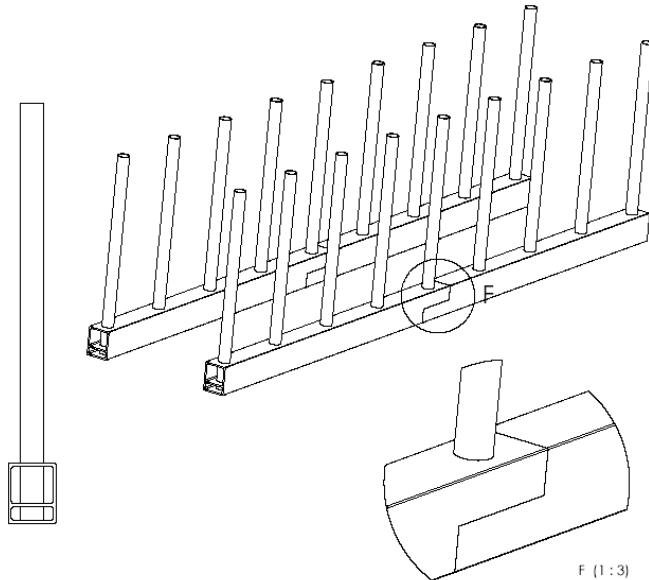

Figure 5.1-Connection of the slotted rail elements
- Assemble the rail elements and connect them using a support tube (Fig. 5.1).